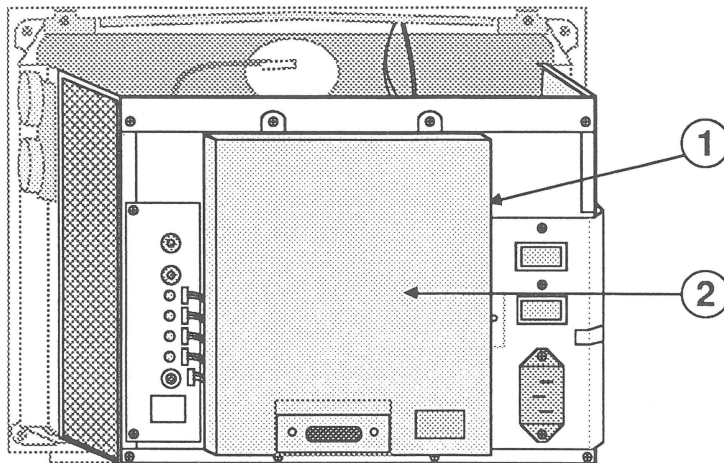

FIGURE 9
3. Replace the screw that secures the black ground wires to the right side of the video color board assembly frame. (The screw is located under the shield in the area noted by Figure 9, #2.)
4. Replace the metal video board shield (Figure 9, #1). It simply slides on and snaps into place.